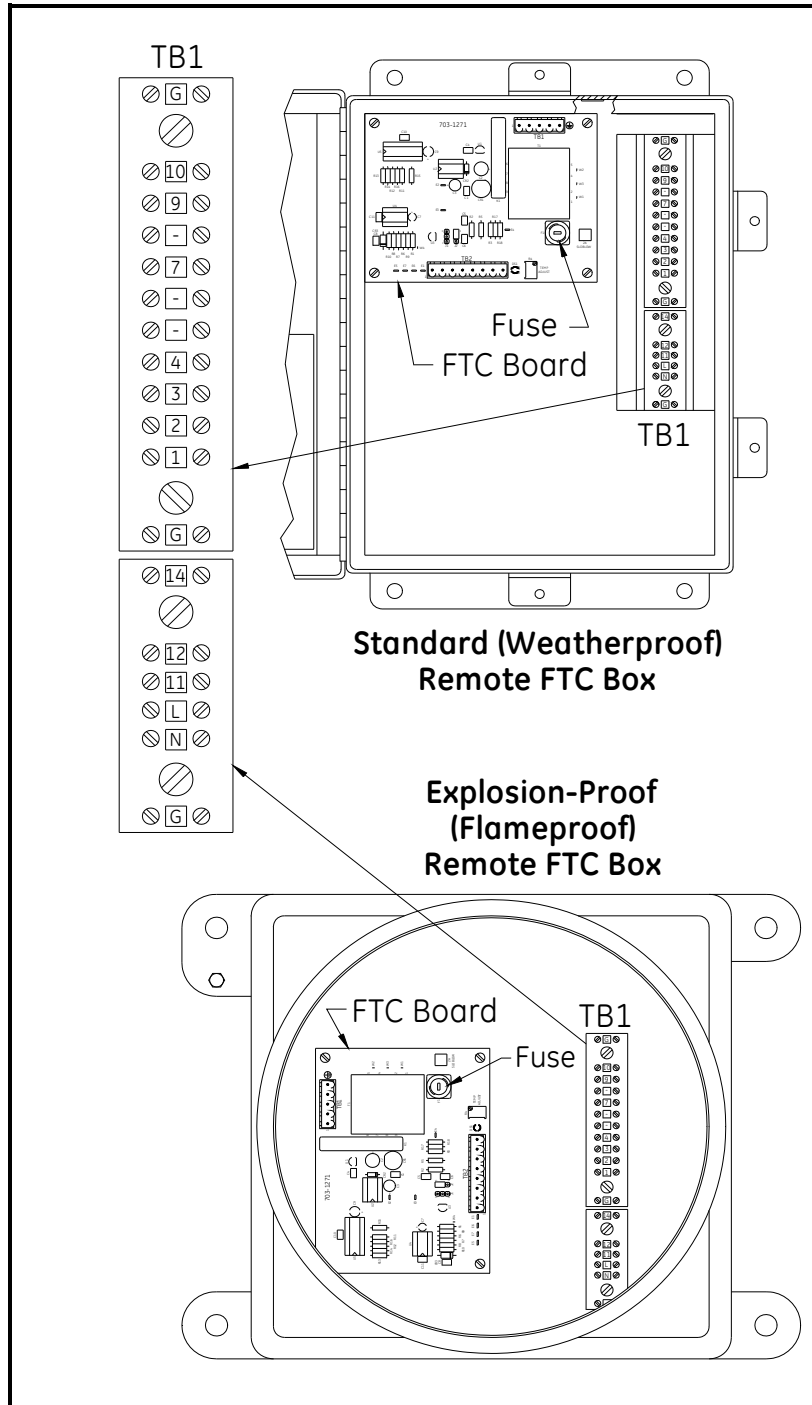

Figure 30: FTC Board (Fuse) and TB1 Locations
- Using a digital multimeter, measure the FTC board's AC output voltage to the sensor furnace across pins 12 and 14 on terminal block TB1 in the Remote FTC Box and across pins 3 and 4 of terminal block TB1 on the FTC board. See Figure 30 for the terminal block locations, and record the two voltage readings.
- Using a digital multimeter, measure the FTC board's AC input voltage across pins 1 and 2 of terminal block TB1 on the FTC board. See Figure 30 on page 61 for the location of TB1. One of the conditions listed in Table 17 should occur.
- Remove the FTC board fuse (see Figure 30 on page 61) and check it for continuity. If the fuse is blown, replace it with a new fuse of the size and type listed in Chapter 7, *Specifications*.